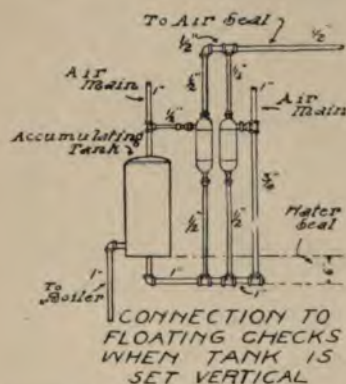

Fig. 103.—K-M-C Vertical Checks—Vertical Tank.
A. The K-M-C system makes use of a mercury appliance similar to that employed by the Vacuum Heating Company, and in addition to this a small tank, called an accumulating tank, into which the air line connects in order to condense any vapor or steam which might enter into the return line. The air connection from the tank to the mercury seal device passes through floating checks and thence from the mercury or air seal to the atmosphere. When the accumulating tank is placed in a horizontal position the connections to checks and mercury seal are made as shown by Fig. 103. When there is sufficient head room to place the tank in a vertical